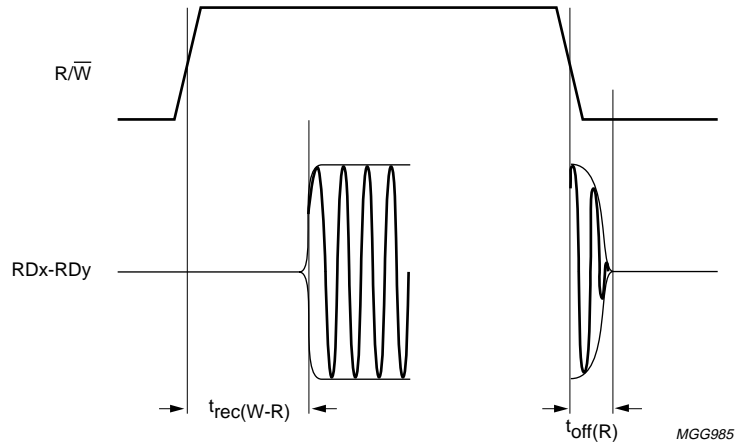

Fig.6 Timing diagram of the reader: write-to-read switching on the same logic head.
10. Write-to-read recovery time includes the write mode to read mode switching using the  $R/\bar{W}$  pin on the same head (see Fig.6). The AC signal reaches its full amplitude few tenth of ns after appearing at the reader RDx and RDy outputs.